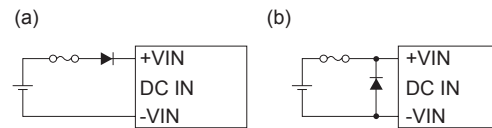

Fig.3.3 Reverse Input Voltage Protection
(5) Reverse Input Voltage Protection
■ Avoid applying reversed-polarity voltage to the power module as it will damage the power module. To protect the power module from reversed polarity voltage, installing an external diode as shown in Fig. 3.3 is recommended.